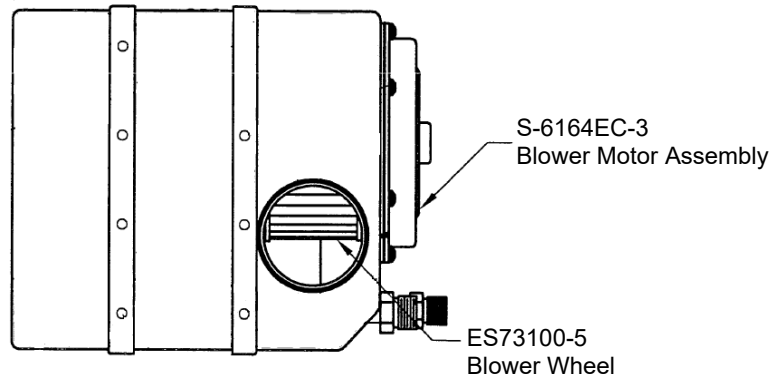

Figure 7-1 – Forward Evaporator
5. Removal and Replacement of Forward Evaporator Blower Motor Assembly **(Figure 7-1 below)**